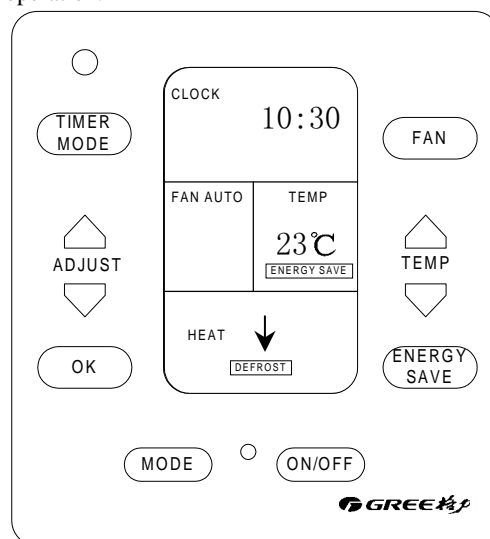

Fig.13: the LCD's display when the unit is on the defrost cycle.
- ❖ When the outside temperature is low and the humidity is high, frost will collect on the outdoor unit, which will reduce the heating efficiency. When this happens, the controller will automatically start the defrost cycle. During the defrost cycle, the heating mode will pause and **DEFROST** will light up. The unit will automatically continue to heat after defrost cycle is finished (Fig.13).